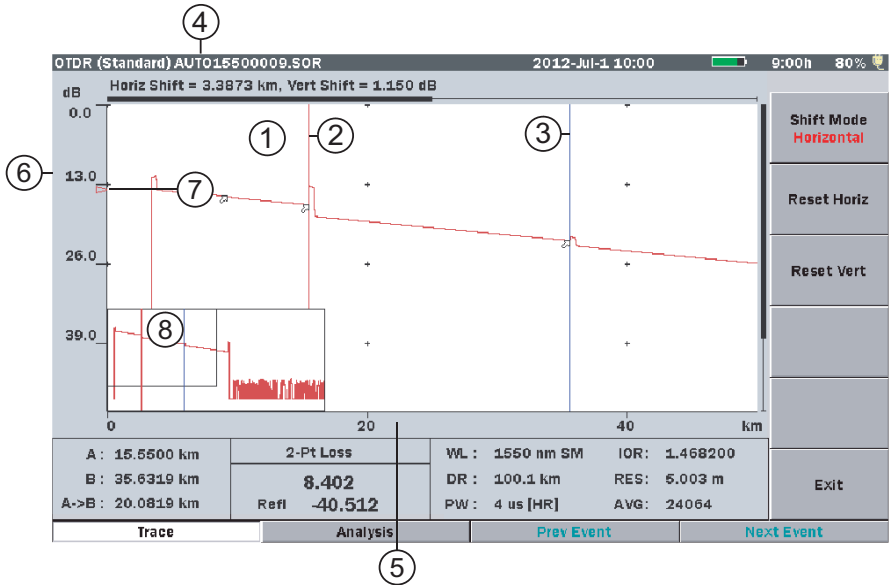

Figure 4-11: Trace Graph – OTDR (Standard) Mode
The Trace Waveform (or Trace) is the downward sloping line going from left to right that connects the data points collected during a test. See item 1 in Figure 4-11.
The cursors (see items 2 and 3 in Figure 4-11 on page 4-32) are the two vertical lines that extend from the top to the bottom of the trace graph. The cursors allow you to extract power and distance information from the trace graph. The active cursor is displayed in red and the inactive cursor is displayed in blue.
These values (see item 4 Figure 4-11 on page 4-32) are only displayed when some type of shift is in use.
The vertical axis scale (see item 6 in Figure 4-11 on page 4-32) is located on the left side of the trace graph and is expressed in dBs, while the horizontal axis scale (see item 5 in Figure 4-11) is located at the bottom of the trace graph and is expressed in the distance unit as set on the Preferences screen. See “Distance Display Units” on page 4-4 for details.
The dB level indicator (see item 7 in Figure 4-11 on page 4-32) denotes the intersection of the active cursor and the trace level.